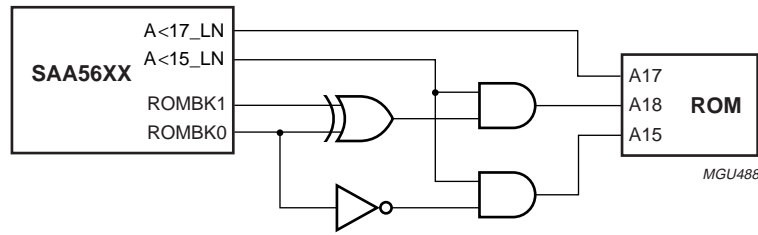

Fig.14 Additional glue logic required to address 256 kbytes of external ROM.
**Remark:** For emulating the external program ROM pins A15\_BK, ROMBK0, ROMBK1 and ROMBK2 are used to address up to 256 kbytes. With additional glue logic these address lines can be used to address up to 256 kbytes os external ROM. Figure 14 shows the additional glue logic.